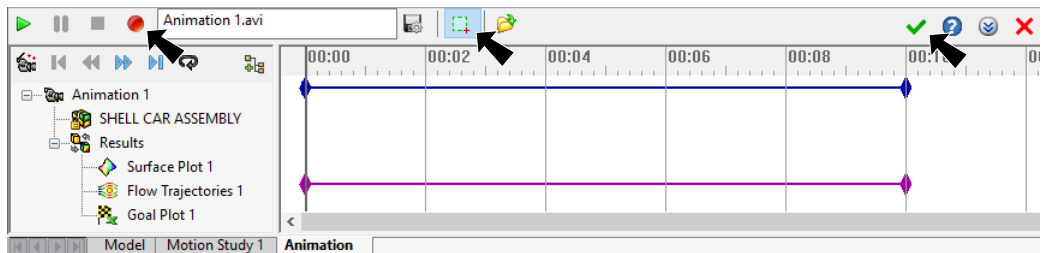

Fig. 34
Step 2. In the Animation control panel turn on **Capture Region** , Fig. 34.
Step 4. Click **Record** , Fig. 34.